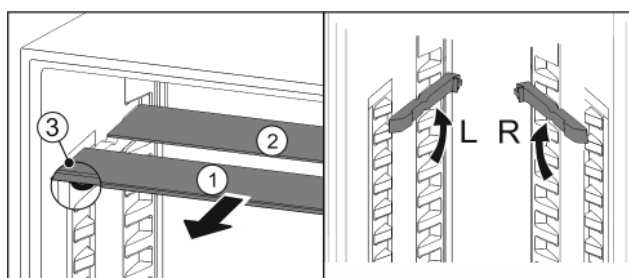

Fig. 105
- Pull the glass panels out *Fig. 105 (1)* from the front, one at a time.
- The glass panel *Fig. 105 (1)* and trim strip are at the front.
- The stops *Fig. 105 (3)* point down.